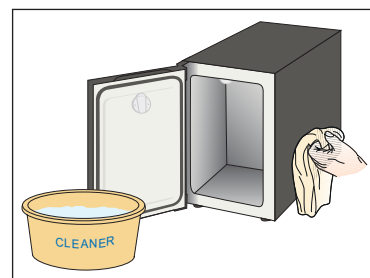

Fig. 2
- 2 During the cleaning cycle process, clean the cooling unit with a soft cloth. (Fig. 2)